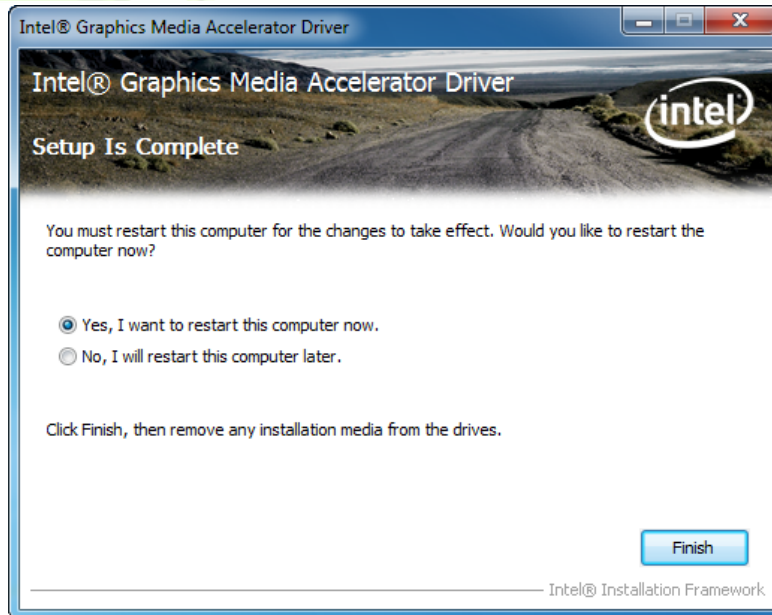

Figure 5-11: Graphics Driver Installation Finish Screen
Step 12: The **Finish Screen** in **Figure 5-11** appears.